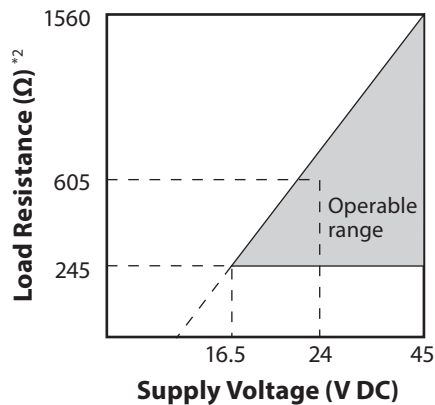

Figure 3. Supply voltage for travel transmission vs. load resistance characteristic
*1. For load resistance, refer to Figure 3.